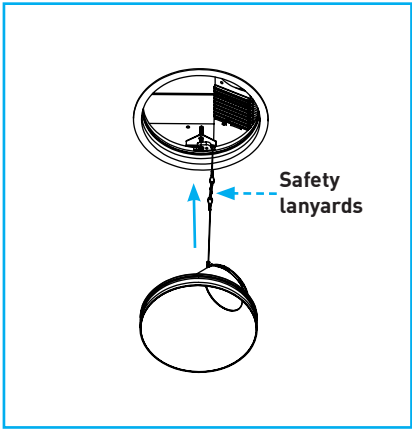

Fig.41
Connect safety lanyards. Push baffle up until flush with the flange or the finished ceiling plane on trimless applications (Fig.41).
- D. Connect safety lanyards and reinsert baffle to locked position by pushing up into trim aperture (Fig.41).